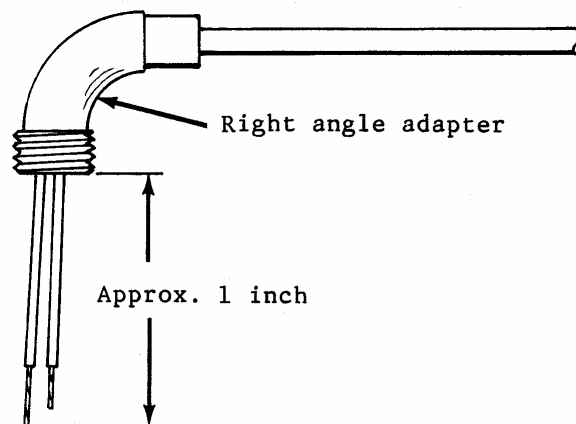

Figure 5-14. Primary Wires Inserted Through Right-Angle Adaptor
2. Feed the primary wires through the right-angle adaptor (Figure 5-14).